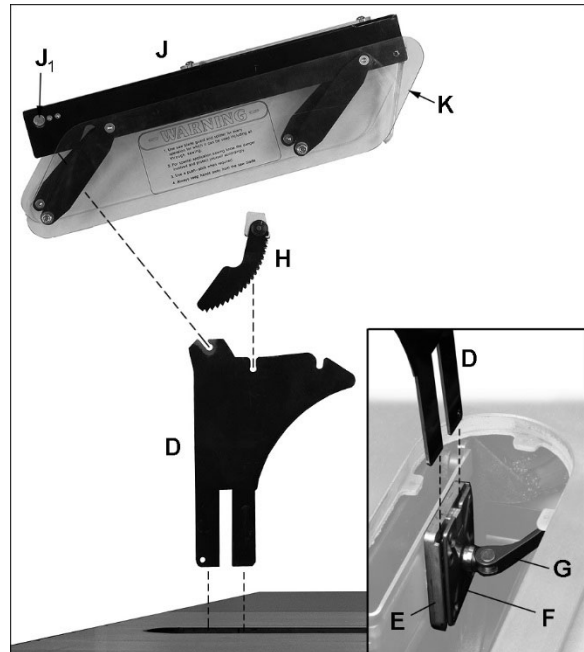

Figure 12
Refer to Figure 12.
3. Pull quick-release lever (G, Figure 12) to open position. The clamp plate (F) is spring loaded and will move away from the bracket (E), leaving a gap.
4. Slide prongs of riving knife (D) into slot between bracket (E, Figure 12) and clamp plate (F), and push riving knife down as far as it will go.
5. Push lever (G) to closed position.
Refer to *Figure 12*.
2. Position anti-kickback pawl assembly (H) as shown in *Figure 12*; the angled side of pawl block faces toward front of saw.
3. Lower pawl assembly onto center notch of riving knife, with pawls straddling knife. Push and hold button on pawl block (on opposite side of that shown in *Figure 12*), and push pawl block down until it securely engages in notch.
The bracket and clamp plate (E/F, *Figure 12*) are adjusted at the factory and no further adjustment of the blade guard and riving knife assembly should be necessary. However, **proper alignment is very important**. Before operating table saw, read *section 9.6*, *Riving knife alignment*, to verify and follow adjustment procedure if necessary.